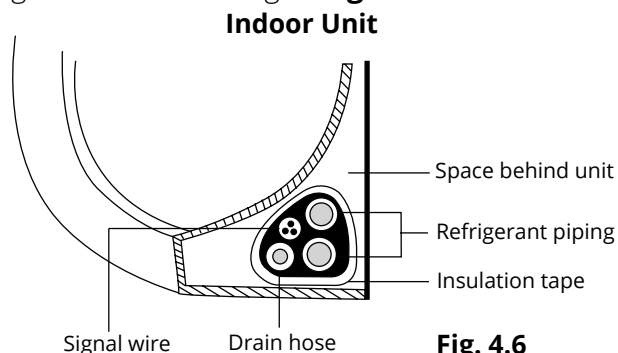
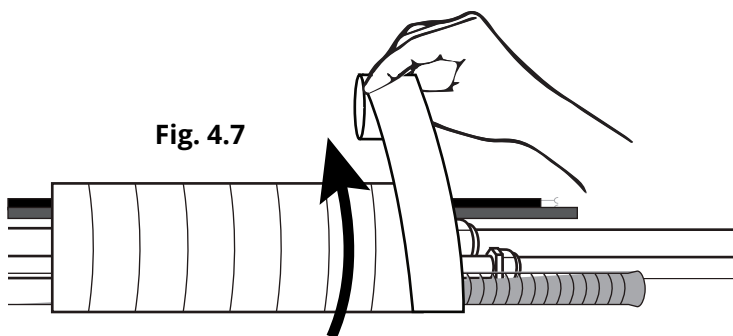

Fig. 4.6
Fig. 4.7
1. Bundle the drain hose, refrigerant pipes, and signal cable according to **Fig. 4.6**.
3. Using insulation tape, wrap the signal wire, refrigerant pipes, and drain hose tightly together. See **Fig. 4.7** for example. Double-check that all items are bundled in accordance with **Fig. 4.6**.